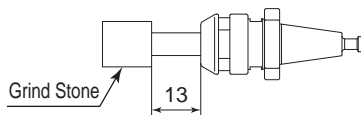

Fig. 21
- (1) The proper surface speed for general grindstones is 10 - 30m / s.
- (2) Do not exceed 13mm of overhang for mounted grindstones as shown in Fig. 21. If the overhang must exceed 13mm, reduce the motor speed in accordance with Table. 3.
- (3) Dress the grindstone prior to use.
- (4) Do not use cutting tools with bent or broken shanks, cracks or excessive run-out.
- (5) For grinding, the maximum depth of cut should not exceed 0.01mm radially or axially. Reciprocate the tool several times after each pass to eliminate tool pressure.
- (6) Always operate cutting tools within the allowable recommended speed of the cutting tools. Use of a cutting tool outside of the allowable speed of the cutting tools could cause damage to the Spindle and injury to the operator.
- (7) Keep the cutting tool shank and collet clean. If contaminants are left in the collet or collet nut, excessive run-out will cause damage to the cutting tool and or Spindle.
- (8) When replacing the tool, make sure the tool shank, collet, collet nut, and inner face of the collet holder are clean. If ground particles or metal chips stick to the inside of the collet, damage to the collet holder or Spindle can occur due to the loss of precision.
- (9) Do not strike or disassemble the Spindle.
- (10) Please set the cutting tools to minimize the overhang amount. 13mm is the maximum amount of overhang to maintain high accuracy and safety.